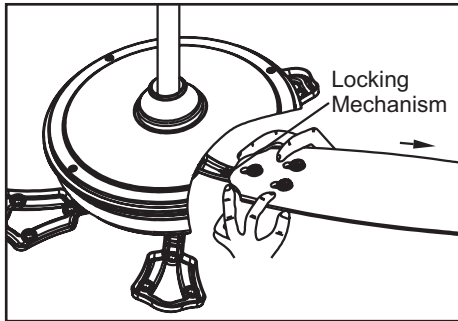

Figure 15b
3. While still holding the blade down with both hands, firmly slide the blade away from the motor housing until the blade engages in the locking mechanism. Make sure the locking mechanism at the rear of the blade arm springs upward and butts against the edge of the blade indicating a secure connection (Figure 15b).